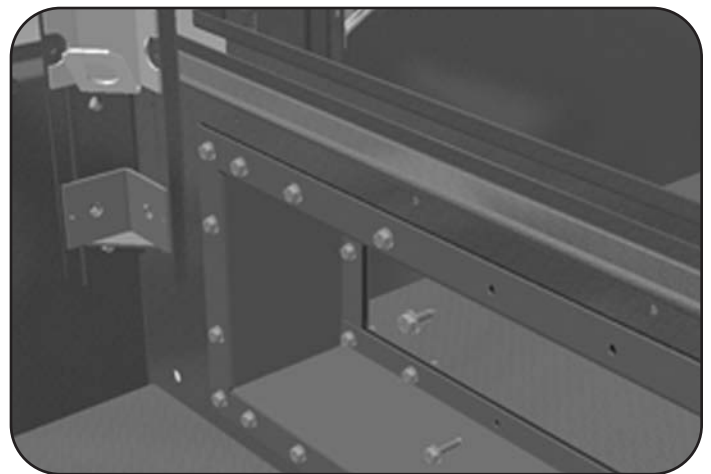

Figure 7
4. Using drift pins to align the bolt holes, place the flume box over the opening in the basin of Cell #1 and fasten into place. Insert the 3/8" self-tapping screws or bolts from the flume box into the basin wall as illustrated in Figure 7